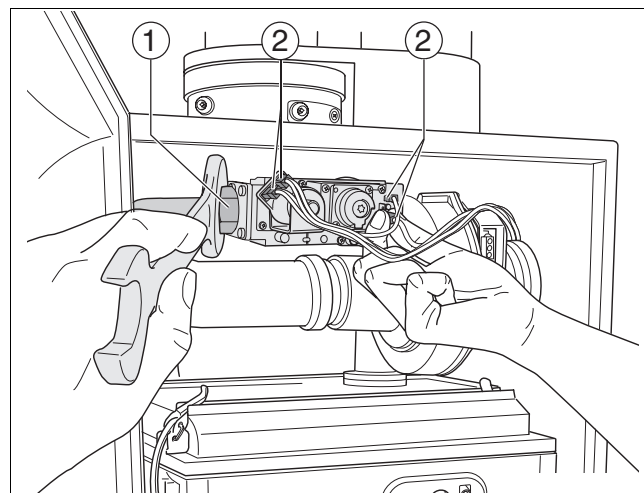

Fig. 3 Undoing the connections to the gas valve
- Loosen the screw connection on the gas valve (→ fig. 3, [1]) and pull the plugs (→ fig. 3, [2]) from the gas valve.